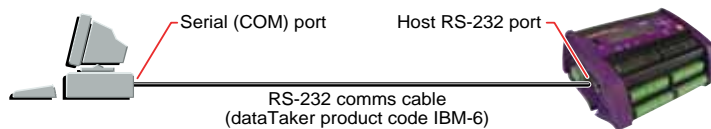
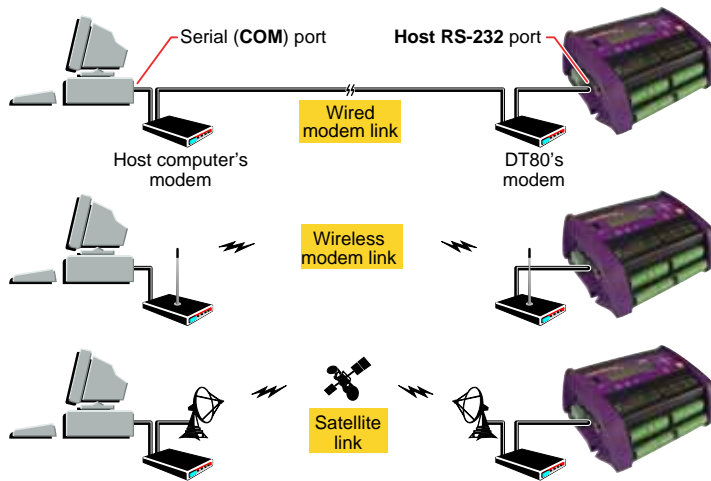

Figure 32: Direct (local) connection
Figure 33: Modem (remote) connections
A common (and the most simple) way of communicating with the *DT80* (for configuring it, programming it and retrieving data from it) is to connect its Host RS-232 port directly to a serial port on the host computer using the RS-232 comms cable supplied. This is known as a **direct connection** to a **local DT80** (Figure 33(P100)).
For recommended flow control settings for this type of connection, see Figure 32. Direct RS-232 Cable
1. Connect a suitable comms cable between a serial port on the host computer and the *DT80*'s Host RS-232 port as shown in Figure 33(P100). Cables are discussed in Figure 32(P100) above.
2. the *DT80* resets the modem by turning its power off and then on again (must use the **EXT\_POWER\_SWITCH** profile key to specify to the *DT80* how the modem power is controlled — see *Figure 33* (P101))...
- c) Use `PROFILE"HOST_MODEM", "EXT_POWER_SWITCH"...` if the *DT80* is to power-down reset the modem (see Figure 33 \(P101\)).